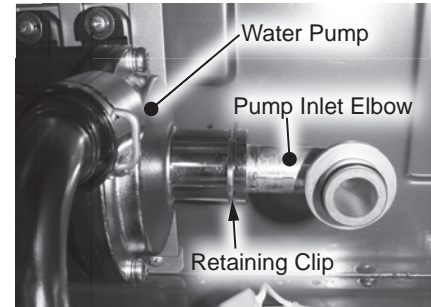

Figure 178 - Pump inlet elbow location
- Locate the pump inlet elbow. Remove the retaining clip securing elbow to water pump. Remove pump inlet elbow and dispose of properly. See Figure 178.